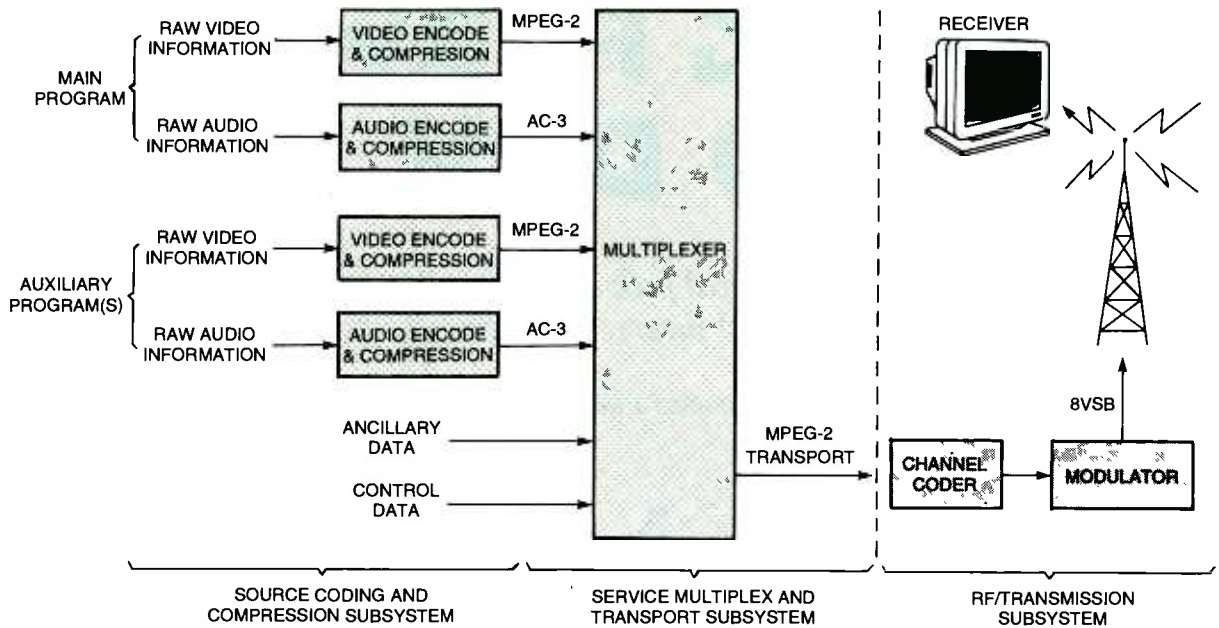

Fig. 1. The DTV terrestrial-broadcast system consists of three subsystems: Source Coding and Compression, Service Multiplex and Transport, and RF/Transmission.
**System Overview.** Figure 1 portrays an overview of DTV. It consists of three basic subsystems: source coding and compression, service multiplex and transport, and RF/transmission. At the source coding and compression stage, audio and video are coded into digital samples and crunched according to Dolby AC-3 and MPEG-2 audio- and video-compression schemes, respectively. Together with some control data, they are then multiplexed and parceled into a single MPEG-2 data stream. Finally, error-correction information is added, and the combined data is modulated and transmitted. For open-air DTV broadcasting, a modulation mode known as 8 VSB—a vestigial-sideband-modulation scheme with eight discrete amplitude levels—is used. With a 6-MHz channel bandwidth, the system can deliver about 19 Mbps of combined program data.